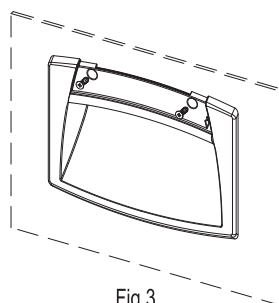

Fig.3
5. Fit the two self-tapping screws (Fig. 3).